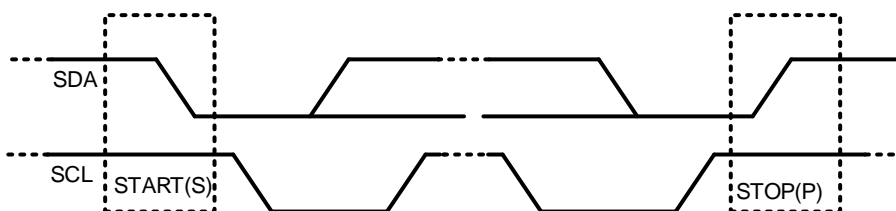

Figure 19. START and STOP Conditions
All the transactions begin with a START(S) and can be terminated by a STOP (P). A HIGH to LOW transition on the SDA line while SCL is HIGH defines a START condition. A LOW to HIGH transition on the SDA line when the SCL is HIGH defines a STOP condition. START and STOP conditions are always generated by the master. The bus is considered busy after the START condition, and free after the STOP condition (see Figure 19).